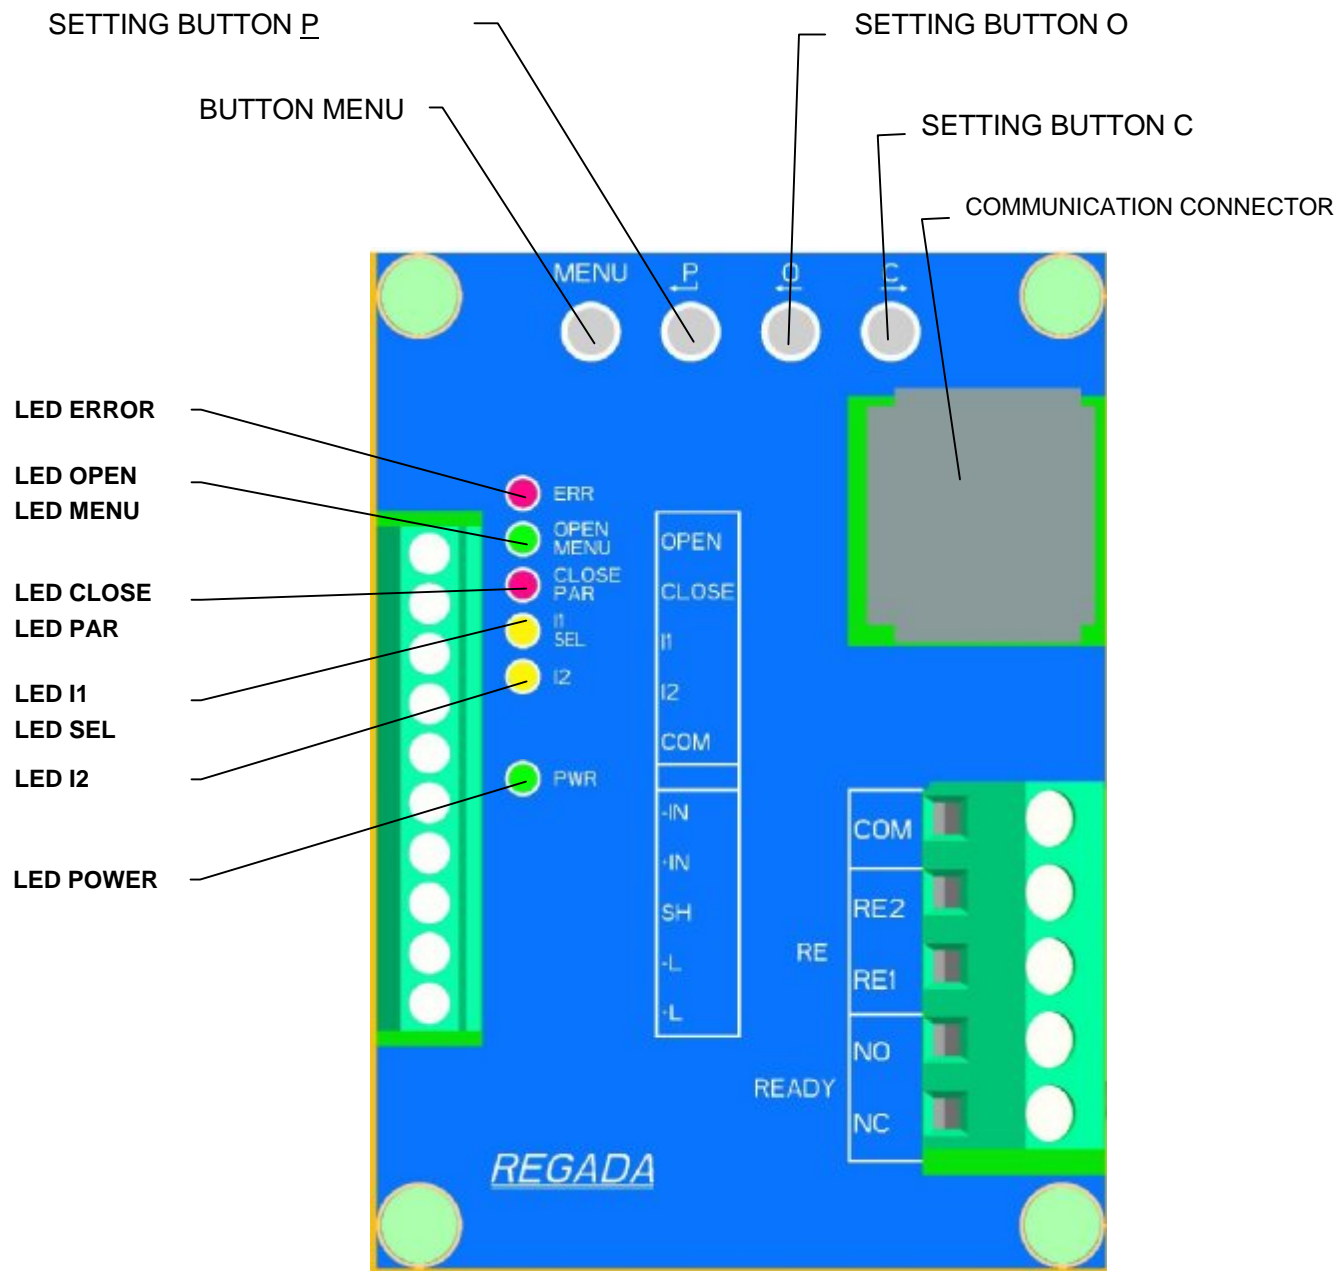

Fig. 6
Adjustment is made onto mechanical and electrical connected actuator. This chapter describes how to set up the EA to parameter values within a range applicable for the software. Location of adjustable parts of control board is on **Fig. 6**.
- by operating the control unit buttons (see Fig. 6);
- six signal lamps according (LED diode) to **Fig. 6**.